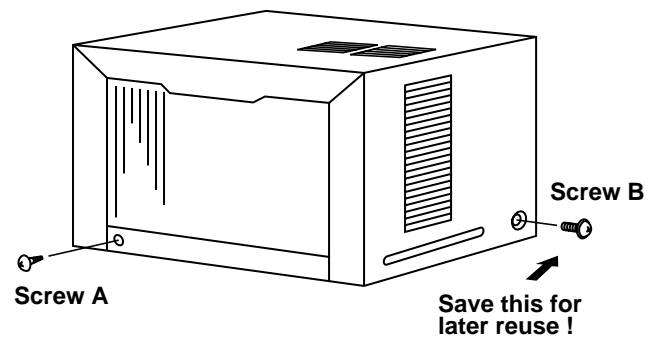

Fig. 8
- (1) Remove screws A and B. (Fig. 8)
- (2) Remove the front grille.